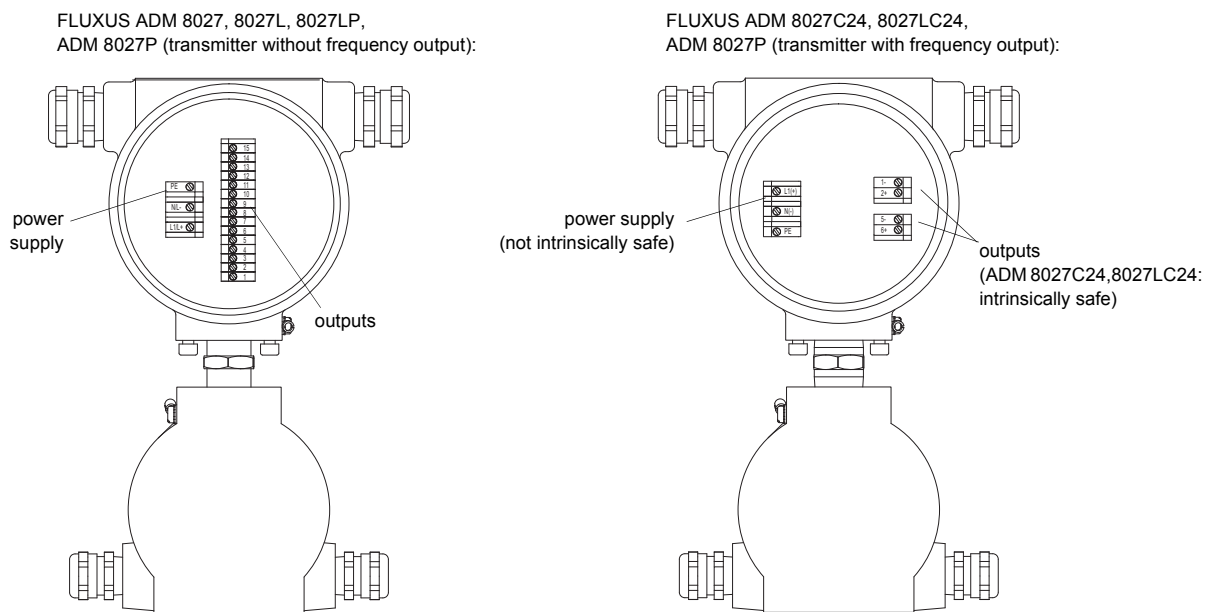

Fig. 6.10: Terminals for the connection of the power supply and the outputs
- Connect the leads to the terminals of the transmitter according to the voltage printed on the nameplate below the terminal strip KL1 (see Fig. 6.10, Fig. 6.3 and Tab. 6.6).
- Connect the leads of the output cable to the terminals of the transmitter (see Fig. 6.10, Fig. 6.3 and Tab. 6.7).